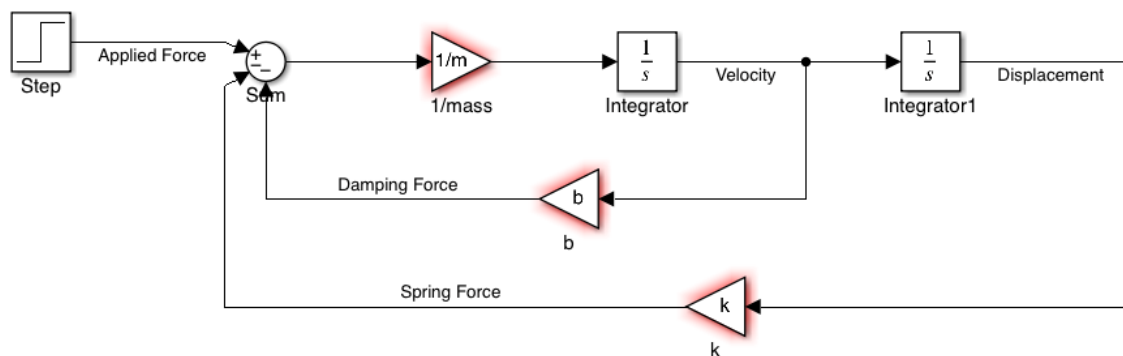

Figure 1: Translational System Fundamental Block Diagram
1. Start by creating the fundamental block diagram for the system. It will result in looking like the diagram shown in figure 1. Highlight the whole system and click on the 3 dots, select “Auto-route Lines”. Capture a screenshot after completion and include it in your report.